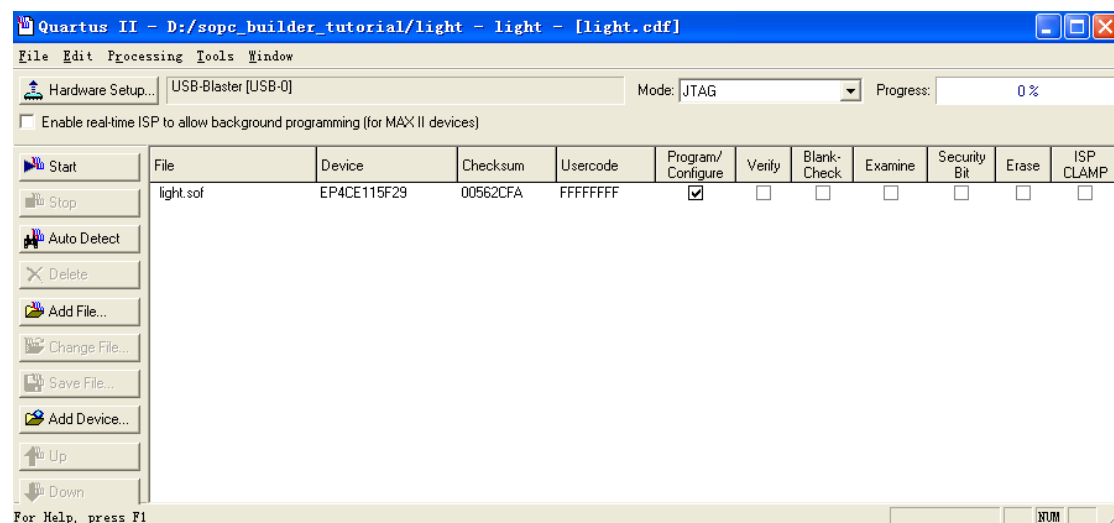

Figure 18.The Programmer window.
2. Select **Tools > Programmer** to reach the window in Figure 18.
6. At this point the window settings should appear as indicated in Figure 18. Press **Start** to configure the FPGA.